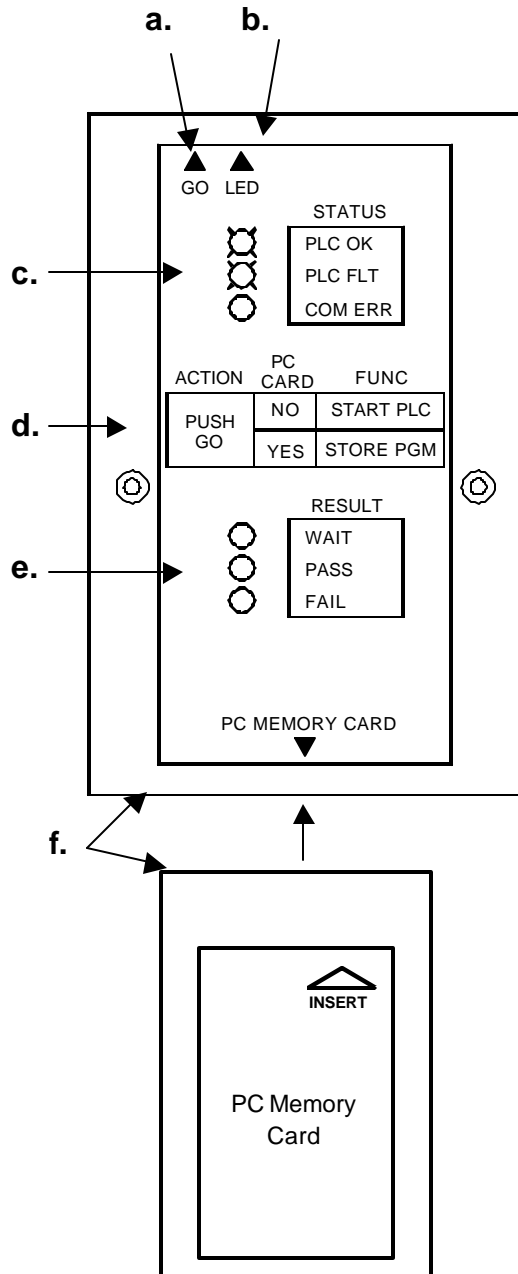

Figure 2.1 – Front View of HE690HPL100 (Shown with Flash PC Memory Card)
2.1.1.1 Before operating the HE690HPL100, the user must be familiar with HE690HPL100's switches, connectors, and LED. For a description of the main features of the HE690HPL100, match the alphabetical letters shown in Figures 2.1, 2.2, and 2.3 with the explanation that follows.
- a. Make sure that the PC card is *not* write-protected. Insert the Flash PC Memory Card into the HE690HPL100 (J1). (Figure 2.1 & 2.3)
- b. Make sure that the PC card is *not* write-protected. Insert the Flash PC Memory Card into the HE690HPL100 (J1). (Figure 2.1 & 2.3)
3. Insert the Flash PC Memory Card containing the program to be downloaded into the HE690HPL100 (J1) (Figures 2.1 and 2.3).